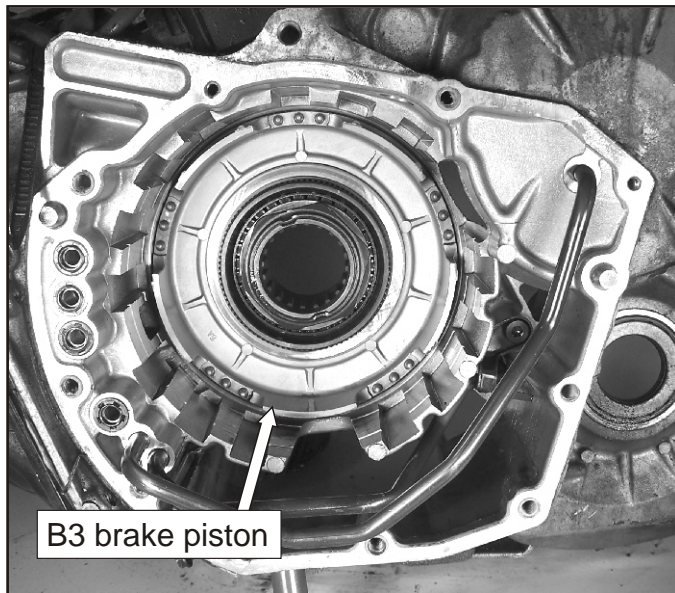

Figure 84
33. Remove the B3 piston from the case as shown in Figure 84.